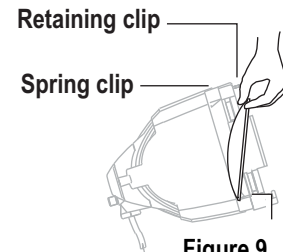

Figure 9
Step 1: Position the fixture with the front of the unit (lens side) facing you, and tilted slightly upward. See Figure 9.